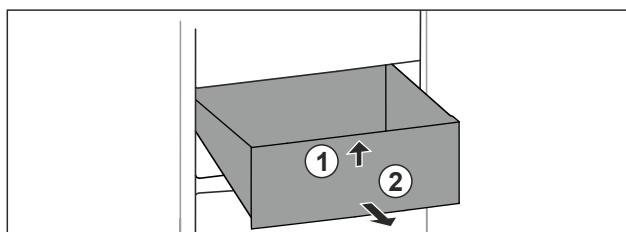

Fig. 68
- Lift up drawer at the front. Fig. 68 (1).
- Remove drawer to the front. Fig. 68 (2).